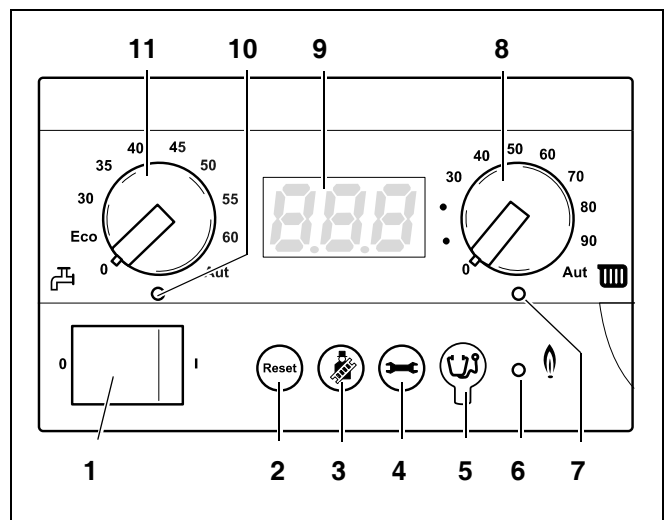

fig. 4 BC10 basic controller
The mains switch (fig. 4, **item 1**) is used to switch the boiler on and off.
If a fault has occurred you may have to restart the boiler by pressing the "Reset" button (fig. 4, **item 2**).